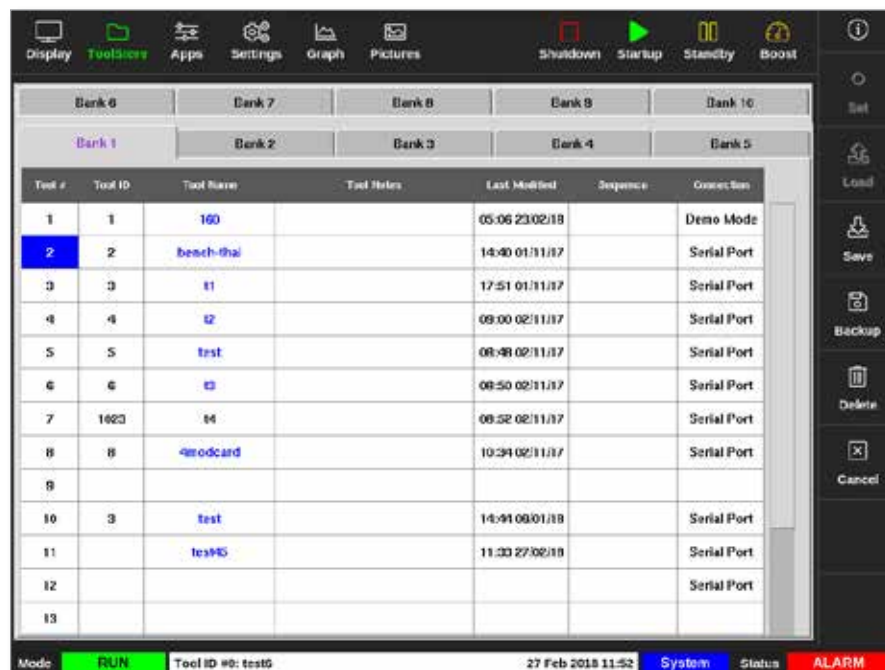

Figure 6-15 Choose the tool to backup
2. Choose the tool to backup. See Figure 6-15.